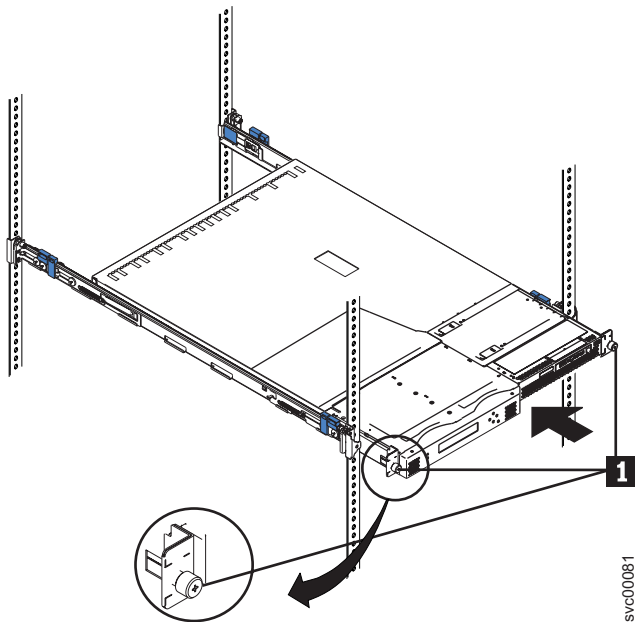

Figure 41. Sliding the SAN Volume Controller 2145-8F4 into the rack
2. Latch the two latches on the front of the rack to attach the node to the rack. ( **1** in Figure 41).
**Note:** The front of the rail assembly looks different from the front, as you can see in Figure 41.